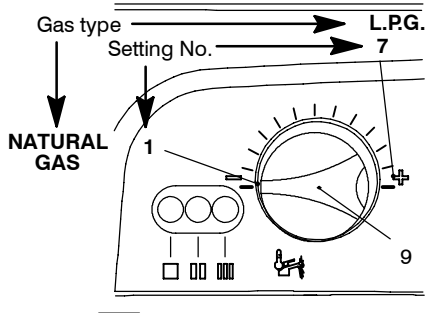

Fig. 8.8
At this step it is possible to visualize the current setting by keeping the reset button 7 pressed for more than 5 seconds. The lamps 10 will flash a number of times corresponding to the setting of the knob 9 in Fig. 8.8.
- 13 To change the setting turn the knob 9 on a position corresponding to the gas used as shown in Fig. 8.8.